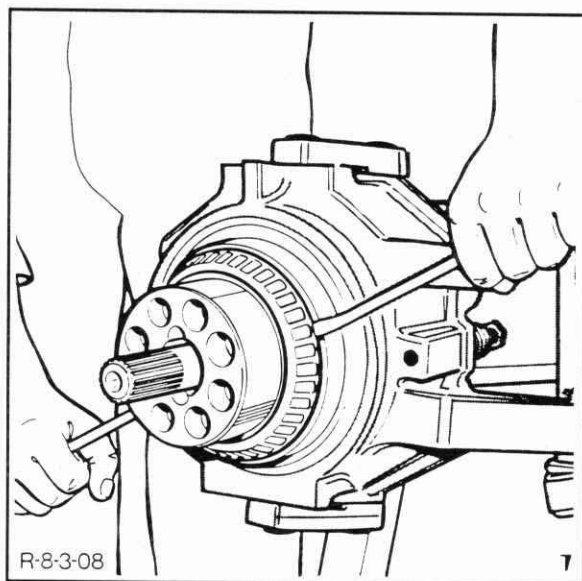

Figure 7-75
9. Lever off the inner bearing inner track from the swivel casing, Figure 7-75.